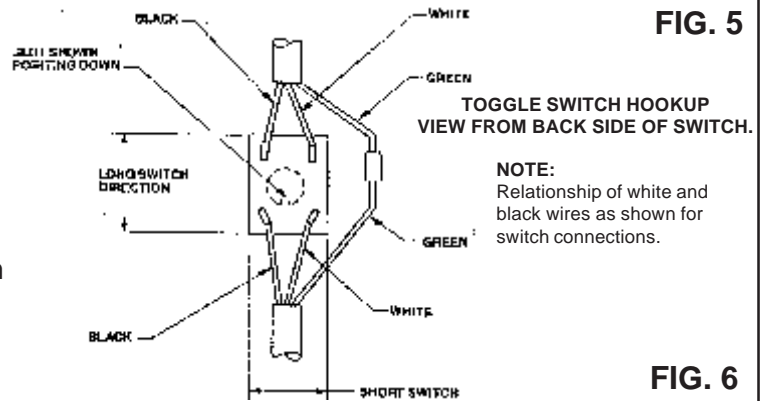

FIG. 6
**SWITCH REPLACEMENT** - If the ON/OFF switch needs replacing, follow the wiring diagram in FIG. 6 and replace switch.